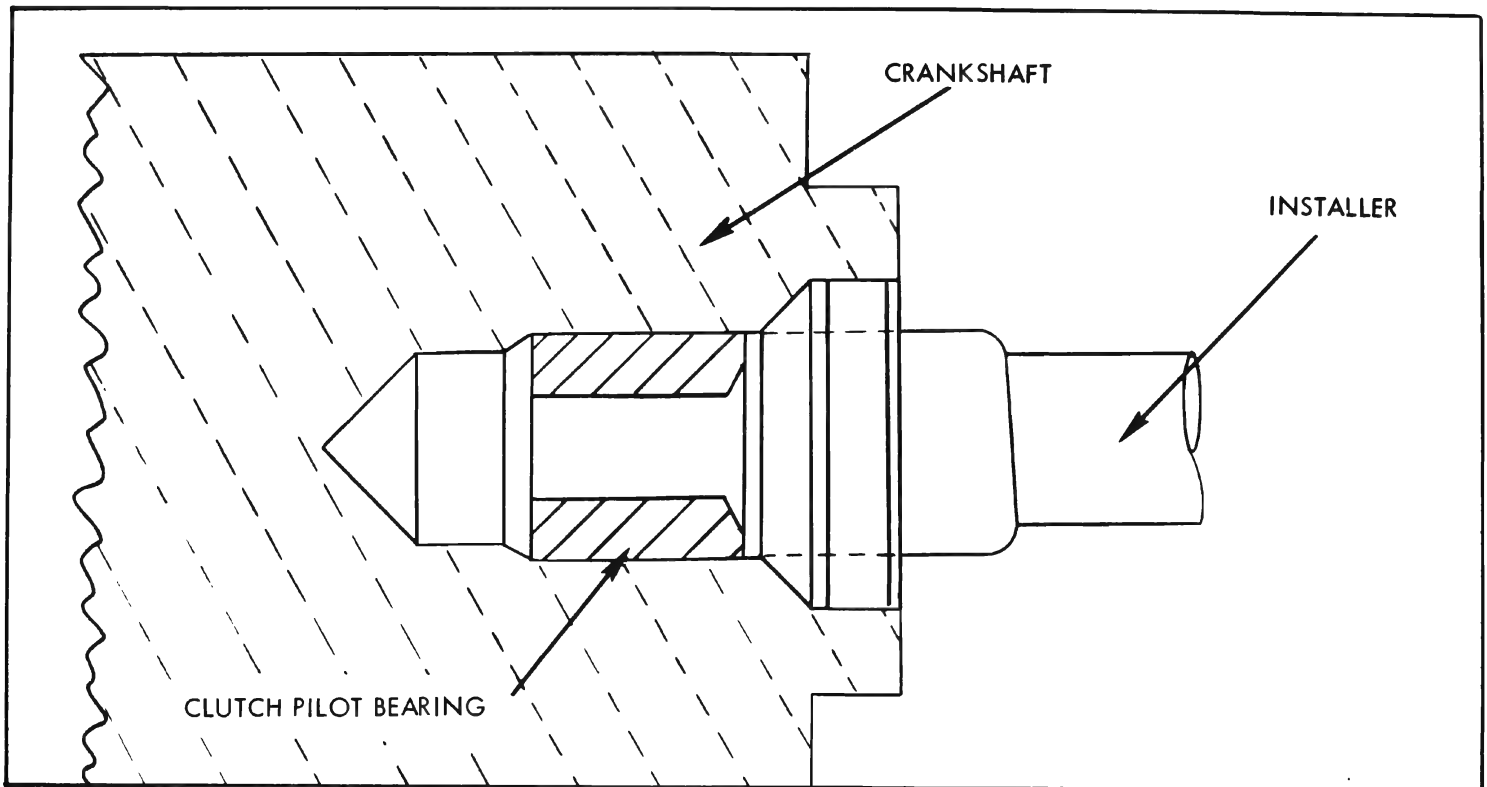

Figure 4-4—Pilot Bearing Installation
5. Check clutch pilot bearing for excessive wear or damage. If replacement is necessary, remove with J-1448. To replace bearing use J-1522 as shown in Figure 4-4.
The clutch release shaft pivots in the upper flywheel housing (see Figure 4-4). The clutch release shaft is retained in the upper flywheel housing by the clutch release lever and clutch equalizer (see Figure 4-4).